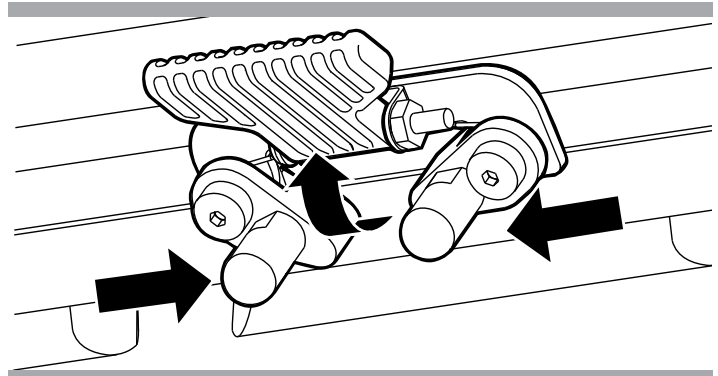

Figure 12. Seat Height Adjustment–Seat Latch Safety
5. Flip up the seat latch safety. **See figure 12.**
6. Squeeze the seat latch and release the seat from the front trapeze bar. **See figure 12.**